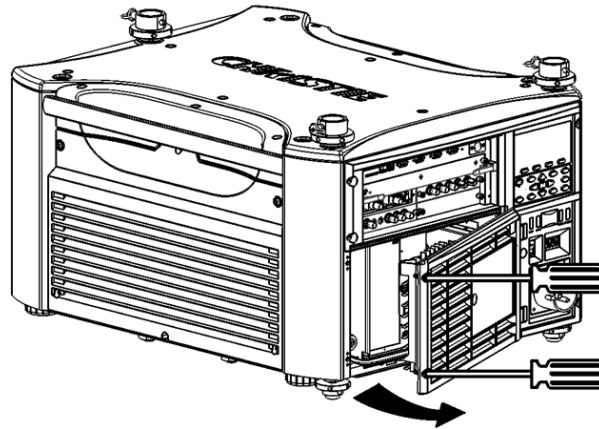

FIGURE 5-1
Using a #2 Phillips screwdriver, loosen the two (2) lock screws securing the lamp door, which is located at the rear of the projector below the Input panel. See *Figure 5-1*.